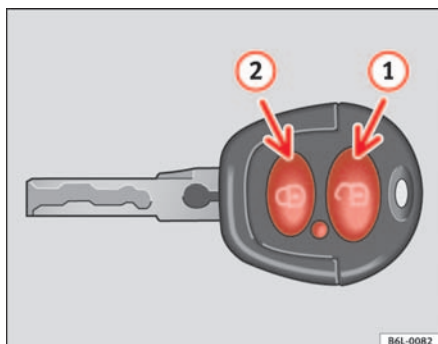
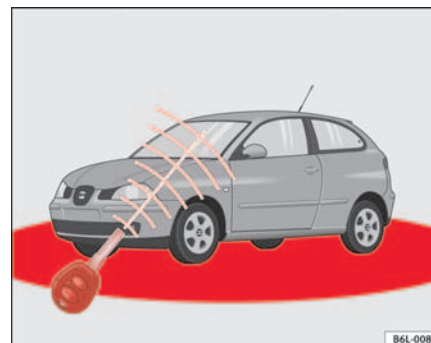

Fig. 48 Assignment of buttons on the remote control key
Fig. 49 Range of the remote control
The range (red zones) ⇒ fig. 49 of the remote control is shown in the diagram. The maximum range depends on a number of circumstances.
To **open**, place the key within the range, pointing towards the vehicle and briefly press the open button  ⇒ fig. 48 . The indicators flash twice. To ►
close the vehicle, press the close button briefly  ⇒ fig. 48 . The indicators flash once.
By pressing the locking button **twice**  ⇒ page 77, fig. 48  both the locking security mechanism (double) and the volumetric alarm* are deactivated but the perimeter alarm* remains active and this is indicated by the indicator light on the driver's door.
When the button  ⇒ page 77, fig. 48  is used the driver's door is unlocked, all others remain locked.
Press the button  ⇒ page 77, fig. 48  twice to unlock all doors.
- The remote control functions only when you are in range ⇒ page 77, fig. 49 (red area).
- Use both keys that have been delivered with the vehicle; the key with the remote and the normal key ⇒ page 77, fig. 48 ⇒ page 77, fig. 49. ▶